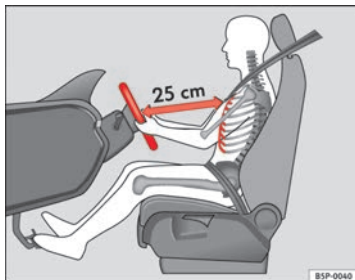
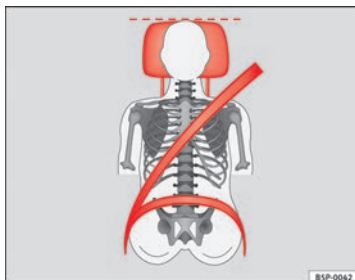

Fig. 28 The proper distance between driver and steering wheel
Fig. 29 Correct seat belt web and head restraint positions
- Adjust the seat so that there is a distance of at least 25 cm between the steering wheel and your chest ⇒ Fig. 28 and so that you can hold the steering wheel with both hands on the outside of the ring at the 9 o'clock and 3 o'clock positions with your arms slightly bent.
- Adjust the driver seat forwards or backwards so that you are able to press the accelerator, brake and clutch pedals to the floor with your knees slightly angled and the distance between your knees and the dash panel is at least 10 cm ⇒ Fig. 28.
- Adjust the head restraint so that its upper edge is at the same level as the top of your head, or as close as possible to the same level as the top of your head and under no circumstances below eye level. Keep the back of your neck as close as possible to the head restraint ⇒ Fig. 28 and ⇒ Fig. 29.
Adjust the correct distance between the driver and the steering wheel ⇒ Fig. 28 using the controls on the driver seat ⇒ page 51.